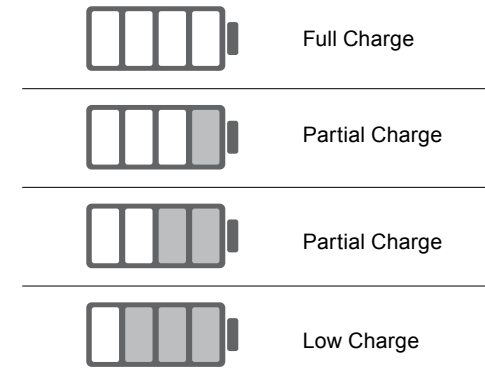

Figure 6 – Battery Status Symbols
4. You will see the charging symbol (white lightning bolt) and battery status symbol flashing in the corner of the screen. This lightning bolt charging symbol tells you EXOGEN is charging. Charge EXOGEN until a fully-charged battery is shown by the battery status. (Figure 6)
As you use EXOGEN, the symbol will change to show the reduced battery level. See Figure 6.